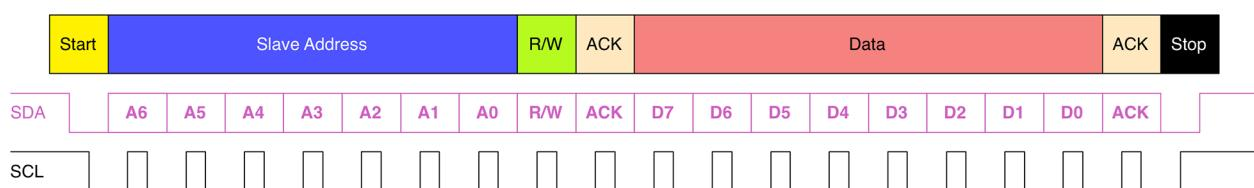

Figure 14.2: The structure of a base I²C message
All transactions begin with a START and are terminated by a STOP (see **Figure 14.2**). A HIGH to LOW transition on the SDA line while SCL is HIGH defines a START condition. A LOW to HIGH transition on the SDA line while SCL is HIGH defines a STOP condition.
Every word transmitted on the SDA line must be eight bits long, and this also includes the address frame as we will see in a while. The number of bytes that can be transmitted per transfer is unrestricted. Each byte must be followed by an *Acknowledge* (ACK) bit. Data is transferred with the *Most Significant Bit* (MSB) first (see **Figure 14.2**). If a slave cannot receive or transmit another complete byte of data until it has performed some other function, for example servicing an internal interrupt, it can hold the clock line SCL LOW to force the master into a wait state. Data transfer then continues when the slave is ready for another byte of data and releases clock line SCL.
The address frame is always first in any new communication sequence. For a 7-bit address, the address is clocked out most significant bit (MSB) first, followed by a R/W bit indicating whether this is a read (1) or write (0) operation (see **Figure 14.2**).